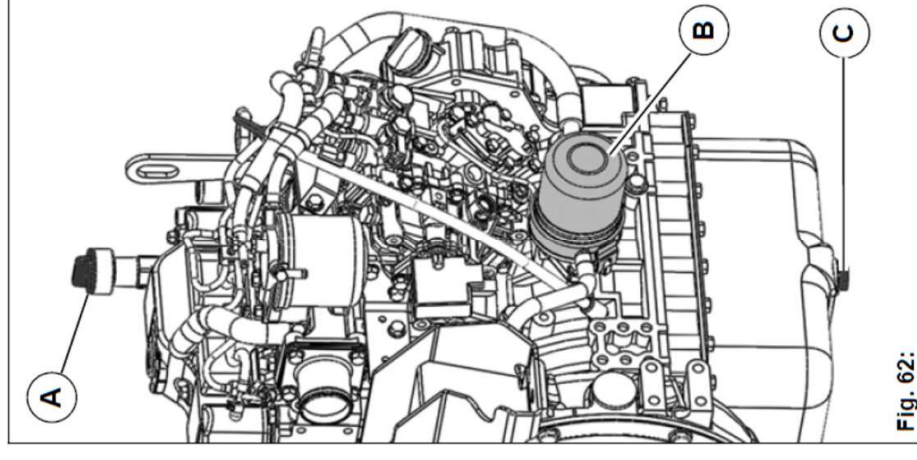

Fig. 62:
2. Place a suitable collecting pan under the drain screw Fig. 62-C.
3. Remove the oil filling cap Fig. 62-A for venting.
5. Change the engine oil filter Fig. 62-B. Ensure clean sealing surfaces and insert a new gasket.